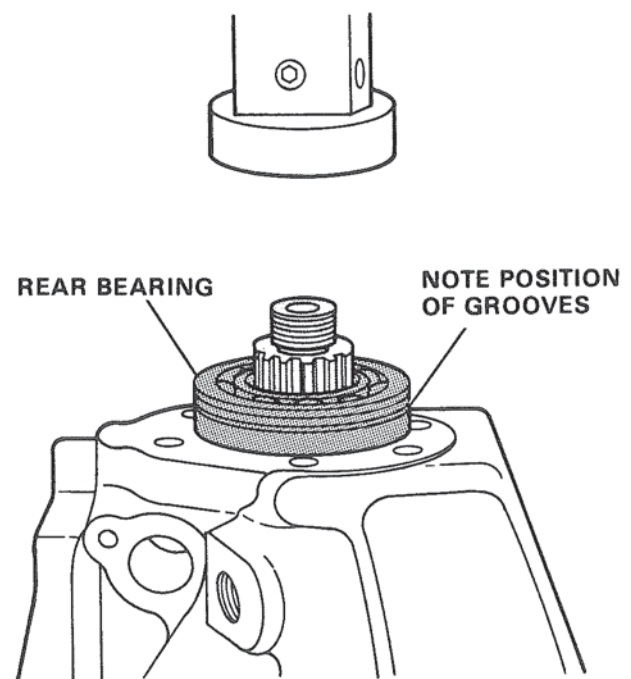

Figure 43. Shaft, Pinion and Bearing Assembly.
2. Place the transmission case over the pinion cage and output shaft assembly so transmission case rests squarely on arbor press table which is supporting assembly tool. Figure 43.